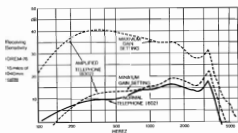

Fig. 1 Receive Performance of Amplified Telephone
developed around 1959 by J.N. Bridgford (3). The current model (telephone type 8322) using silicon transistors was designed by A. O'Rourke and W. Metzenthien (4) around 1967 and introduced into service in 1974. Figure 1, which compares the receive performance at minimum and maximum gains with that of a standard telephone, shows that the amplifier increases the gain from that of a normal telephone by about 25 dB at 500 Hz and about 15 dB at 300 Hz. Although trials with amplifiers of various frequency responses by a group of hard-of-hearing users showed a slight preference for a bass-boosted amplifier (4), a more significant reason for using a bass-boosted response was the higher effective gain it permits before instability arises due to acoustic coupling via the handset transducers (the microphone has a high-frequency boost response).